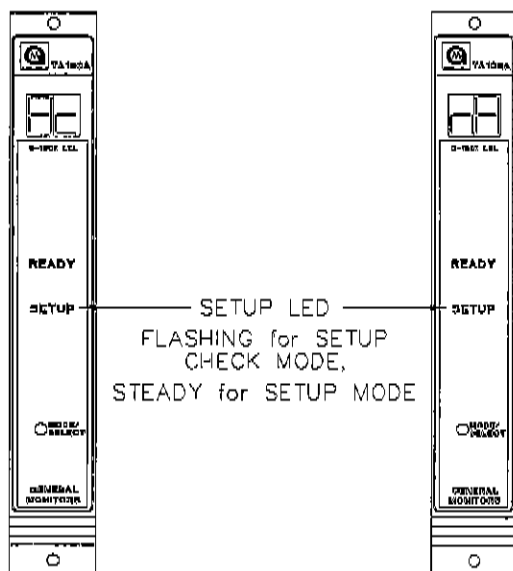

Figure 25
- Next, the display will indicate the alarm output option during a Card Test as either **Ac**, active or **nA**, not active. (figure 25). Not Active is the factory default for this selection.